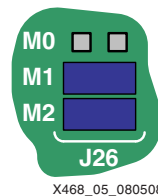

Figure 5: J26 Configured for SPI Mode
2. Configure the jumpers on J26 for SPI mode (Figure 5).